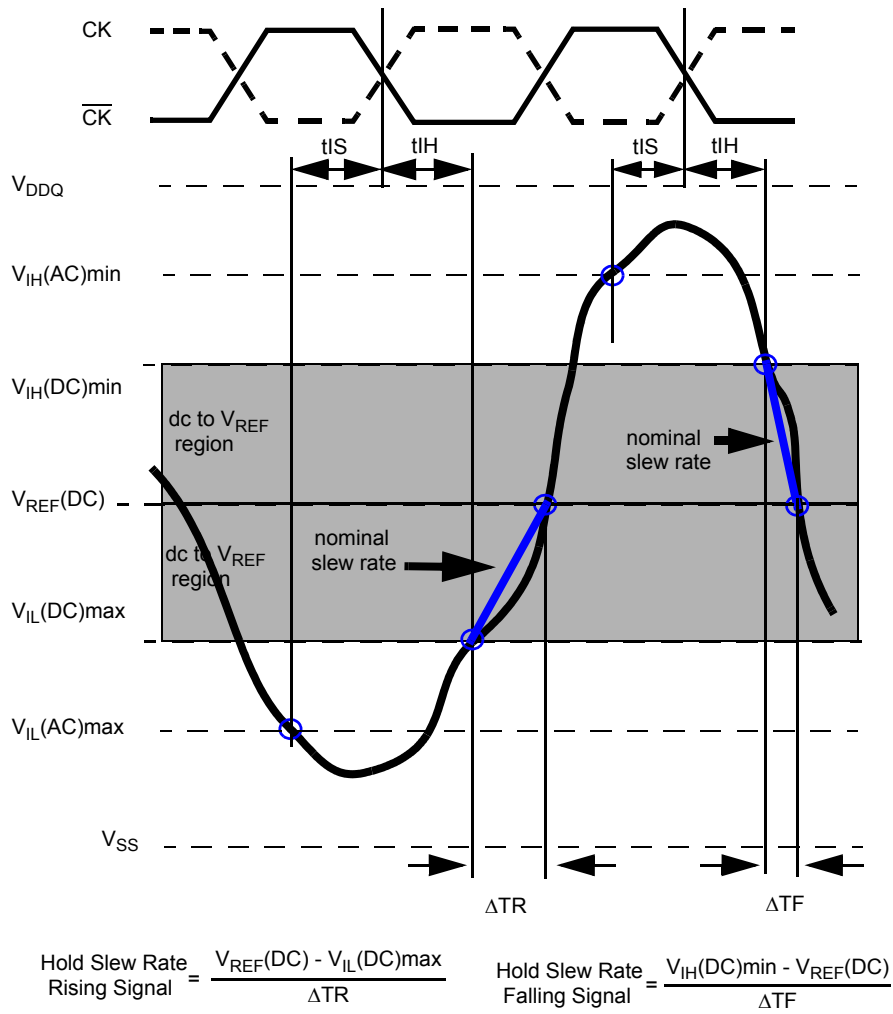
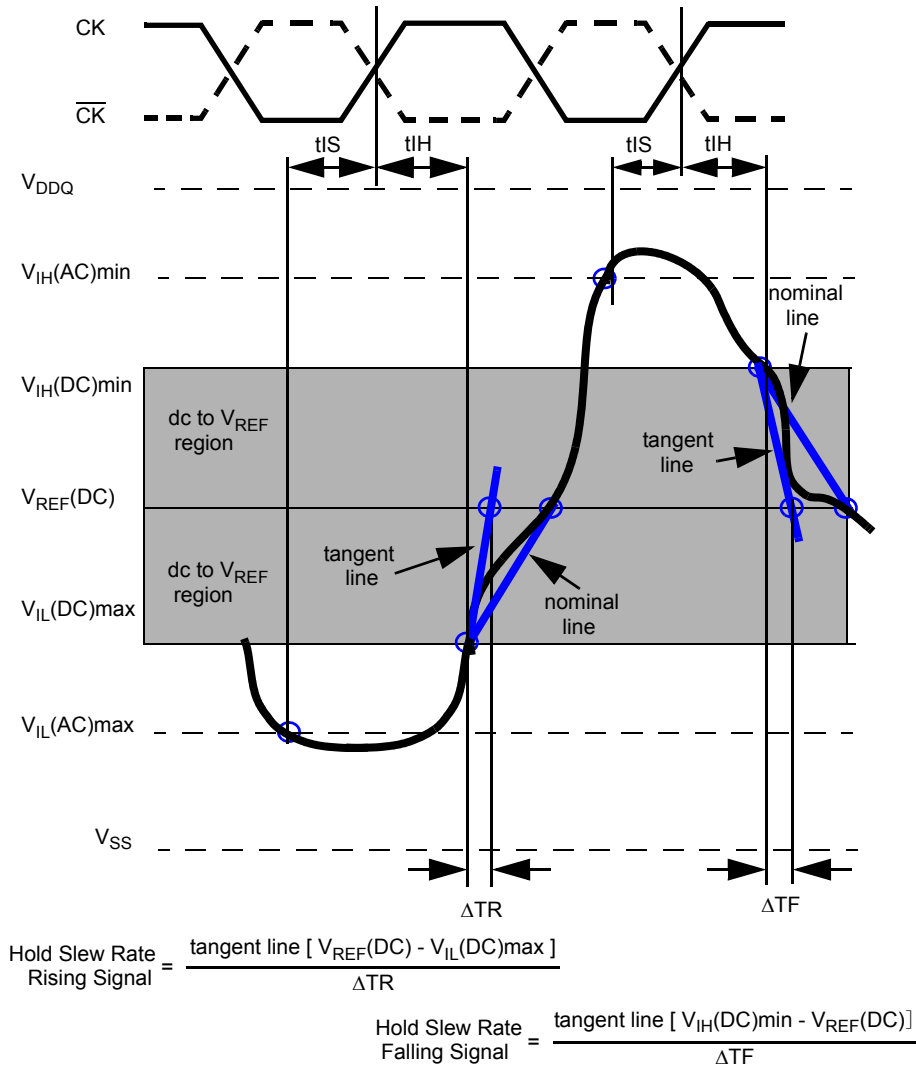

Figure 17. Illustration of nominal slew rate for tIH
Figure 18. Illustration of tangent line for  $t_{IH}$
Hold (tIH) nominal slew rate for a rising signal is defined as the slew rate between the last crossing of VIL(DC)max and the first crossing of VREF(DC). Hold (tIH) nominal slew rate for a falling signal is defined as the slew rate between the last crossing of VIH(DC)min and the first crossing of VREF(DC). If the actual signal is always later than the nominal slewrate line between shaded 'dc to VREF(DC) region', use nominal slew rate for derating value (see Figure 17). If the actual signal is earlier than the nominal slew rate line anywhere between shaded 'dc to VREF(DC) region', the slew rate of a tangent line to the actual signal from the dc level to VREF(DC) level is used for derating value (see Figure 18).